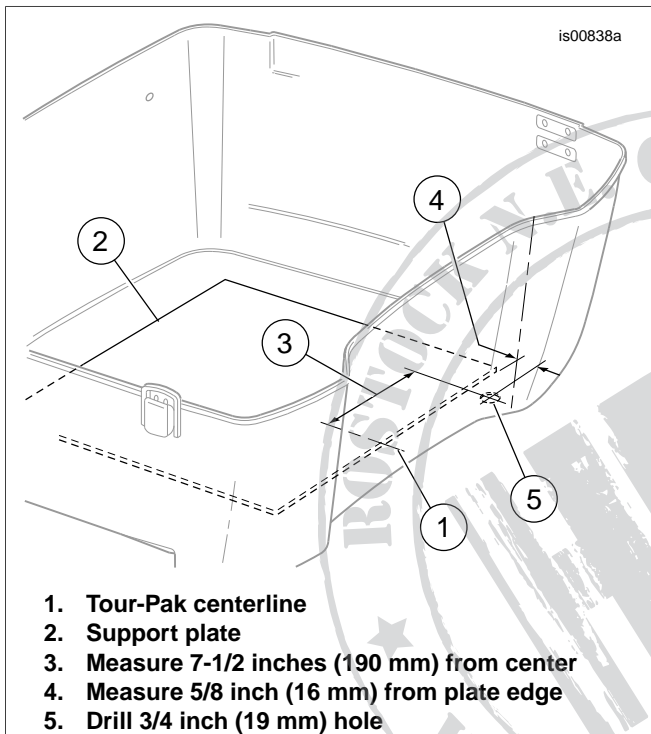

Figure 2. AM/FM Antenna Cable Drilling Location (Type 1 Tour-Pak)
- a. See Figure 2. Measure and determine the center (1) of the support plate (2) that covers the floor of the Tour-Pak.
- e. Lay a strip of 2 inch (51 mm) wide masking tape on the Tour-Pak floor in front of the support plate at the 7-1/2 inch (190 mm) distance (3) from the center line, from the support plate to the front wall.
- g. Measure forward 5/8 inch (16 mm) from the front edge of the support plate (4), and draw a short line across the line drawn in the step above.
- j. From the underside of the Tour Pak drill a 3/4 inch (19 mm) hole (5) from the outside of the Tour-Pak to the inside.